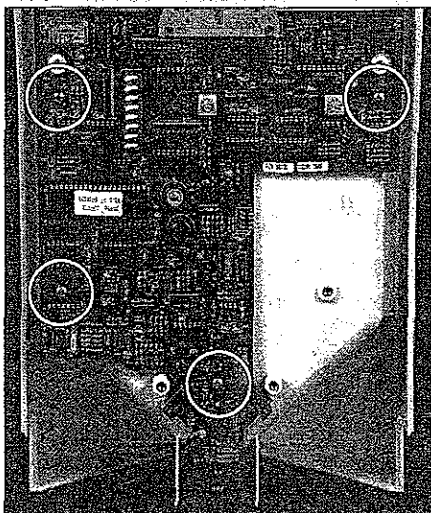
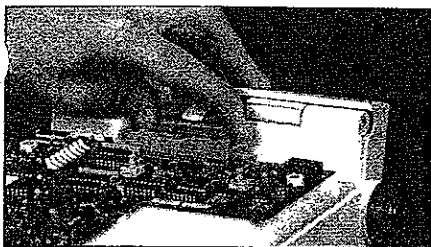

Figure 67
Figure 68
3. Remove the four (4) 6-32x3/16" Phillips pan-head screws which secure the main PCB to the front enclosure (see circles in Figure 67). Disconnect the display cable from the Main PCB (see Figure 68). Lift up and remove the main PCB.
3. Install the four (4) 6-32x3/16" Phillips pan-head screws and attach the main PCB to the front enclosure (see Figure 68). Connect the main PCB to the display PCB.